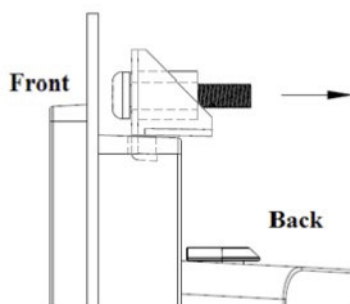

Figure 2.9 Hook Bracket Location
- Insert the hook brackets into the mount holes in a downwards direction (as shown in Figure 2.9). Then hang the panel PC.